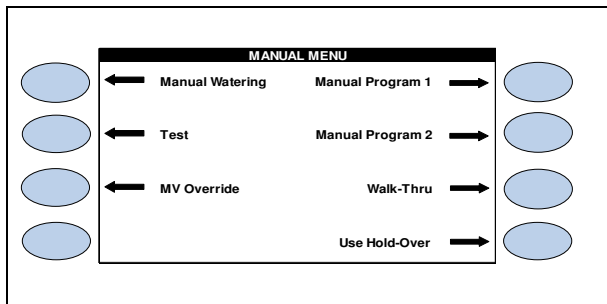

Figure 14
19.  Press the **MANUAL** Menu key. This will take you to the **MANUAL IRRIGATION** screen (Figure 14).